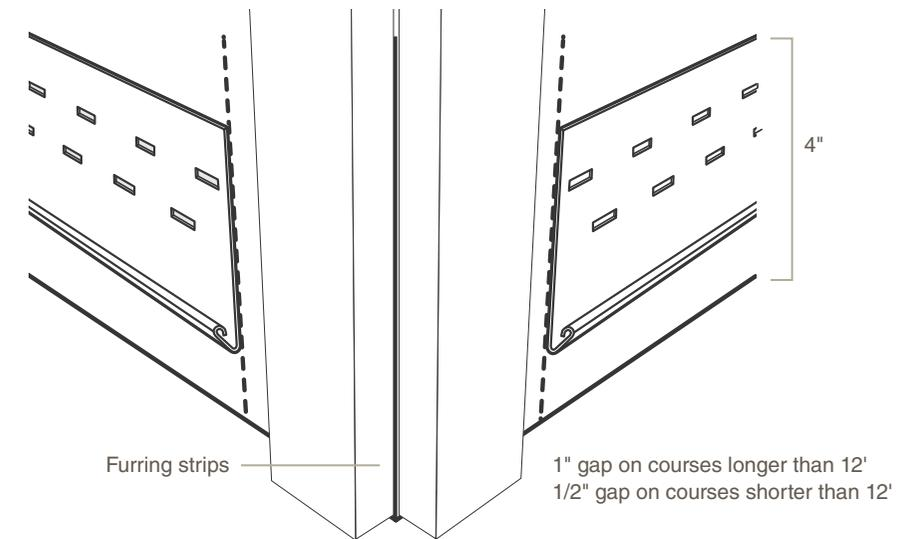

Fig. 3
- Install starter strip aligning the top of the strip with the chalk line and fastening every 8" - 12" (Fig. 3).